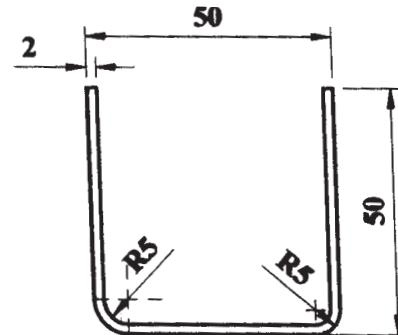

Fig. 3: Bending component
- b) What is spring back? Explain the different methods of reducing spring back and which one is used for the bend component in fig.3. [6]
- c) Calculate the bending force required for bend the component as shown in fig.3. Given : Ultimate tensile strength of material is 360N/mm^2 and length of the bend component is 50mm. [4]
- d) Find out develop length for the bend component in fig.3. [4]
- Q6)** a) What is pilot? Explain in short types of pilot and which is used for the component in fig.3. [6]